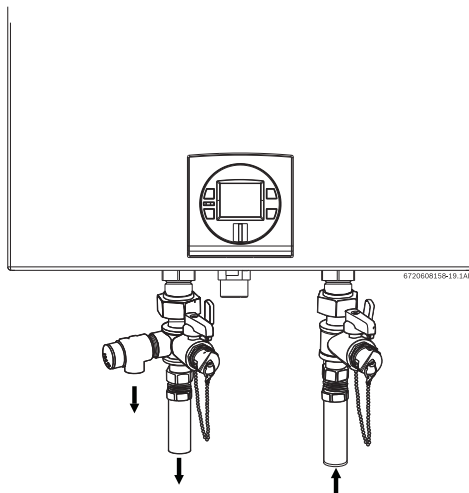

Fig. 37 Plumbing Connections (with shutoff valves) and Pressure Relief Valve
- ▶ Full port shutoff valves should be installed on both the cold water supply and hot water outlet lines to facilitate servicing the heater (see Fig. 37).
The location of the PRV must be readily accessible for servicing or replacement, and be mounted as close to the water heater as possible. See Fig. 37. To install the PRV, a suitable fitting connected to an extension on a "T" fitting can be sweated to the hot water line.